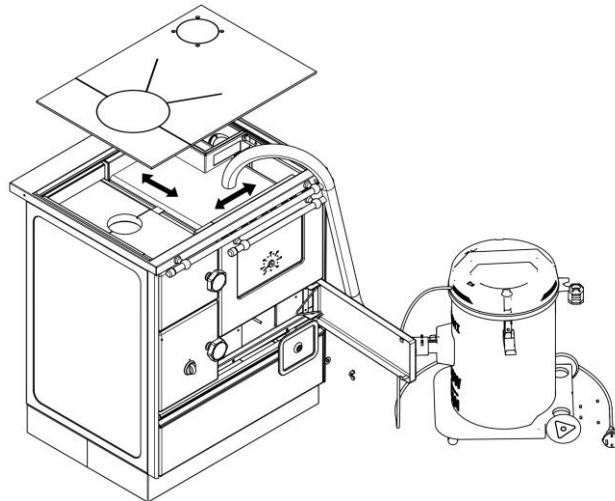

Figure 18
- Removal and thorough cleaning of the cooker plate are preferable to be done once in the season (Figure 18).